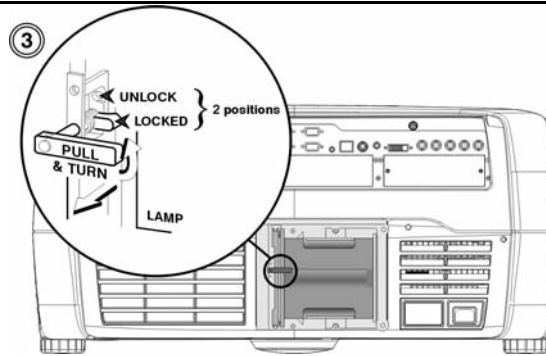

Figure 47. Pull and Turn Lock Lever
3. Pull (out) and turn the lamp lock lever a quarter turn counter clockwise to the “unlock” position. (Figure 47.)